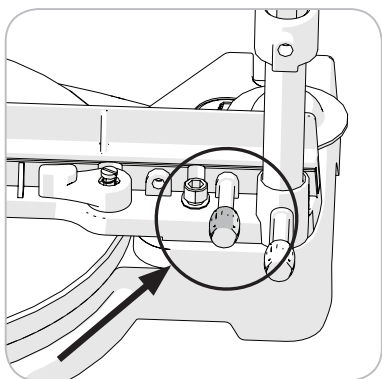

Fig. 4
- Loosen the thumbscrew. **(Fig. 4)**